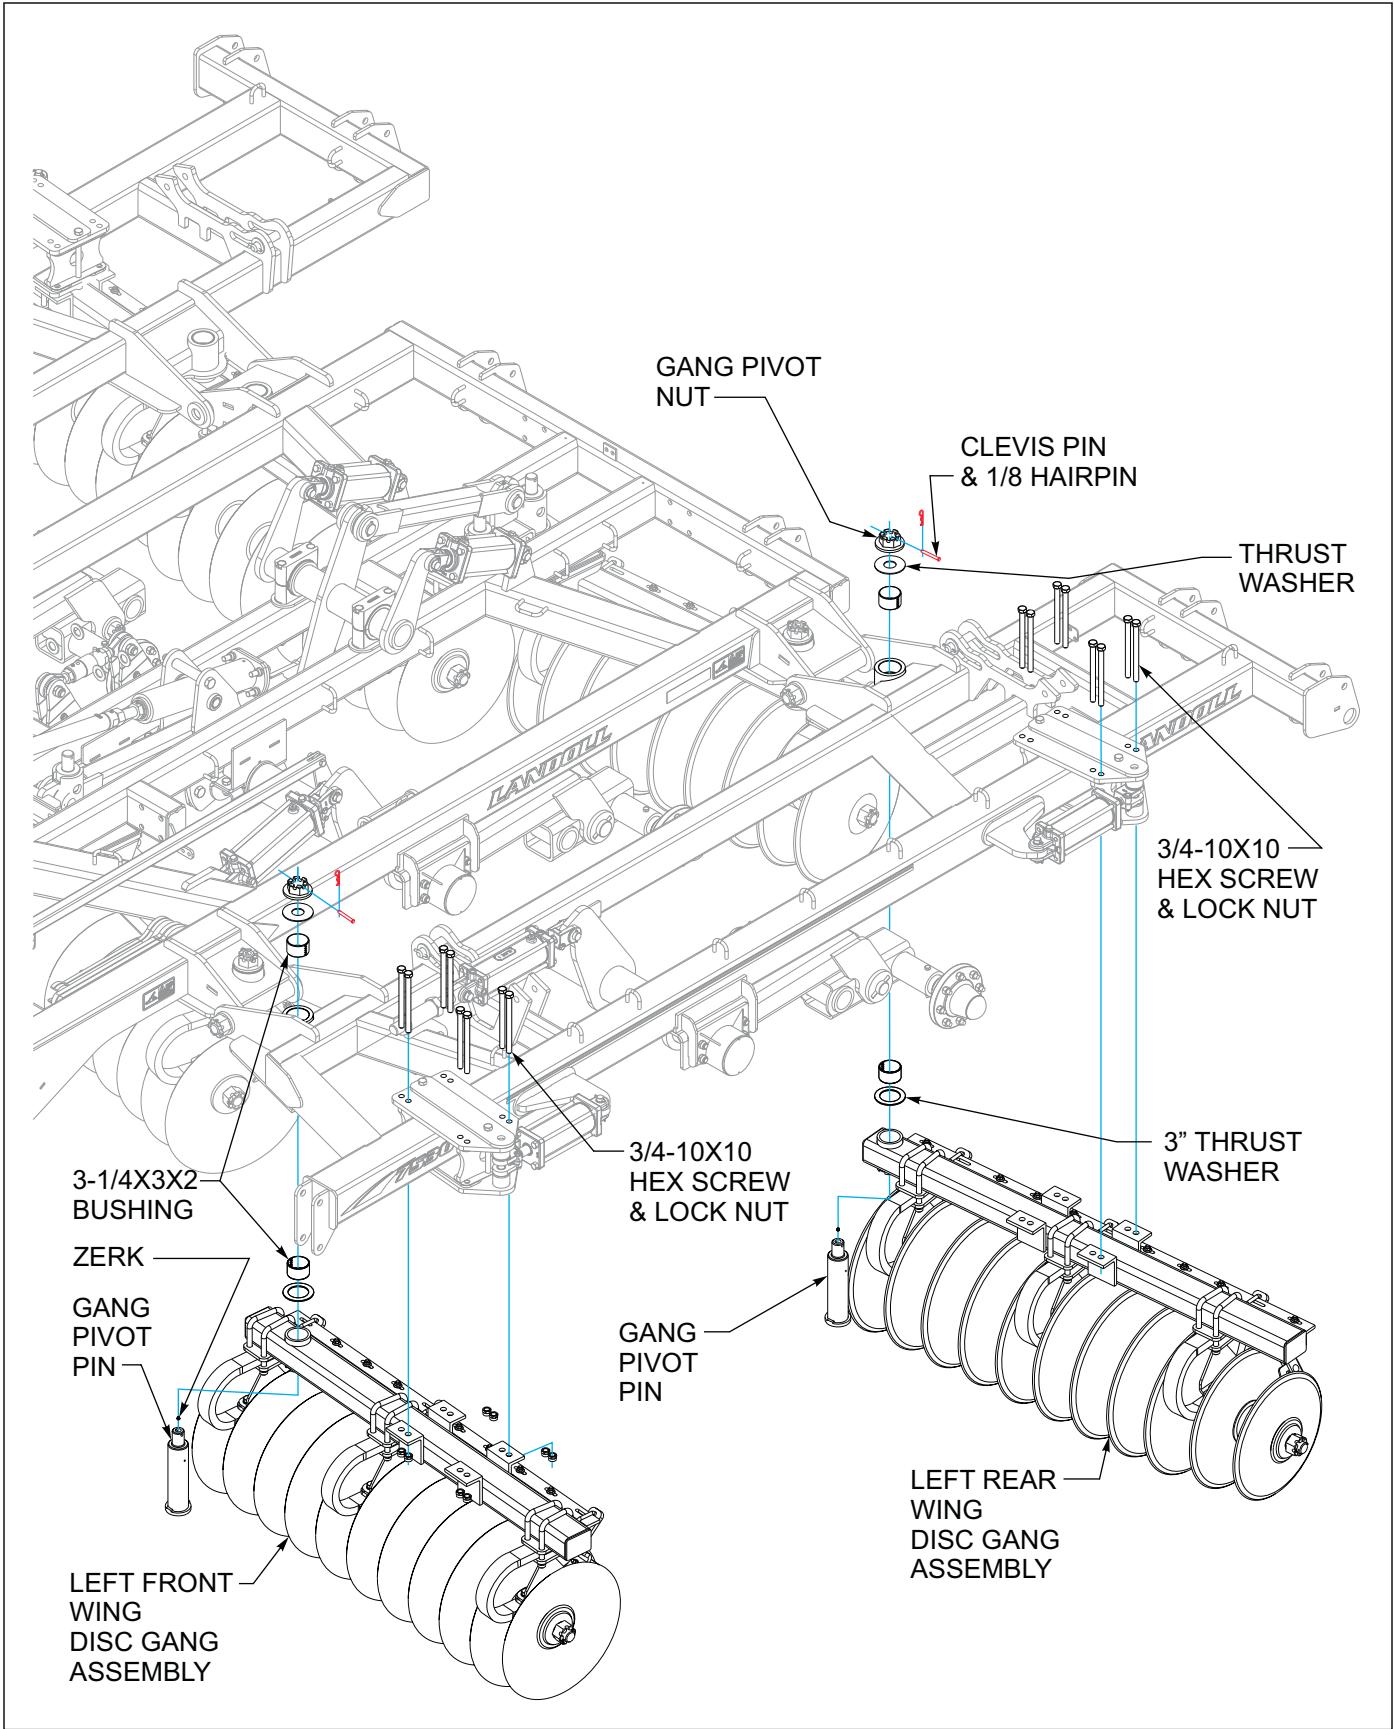
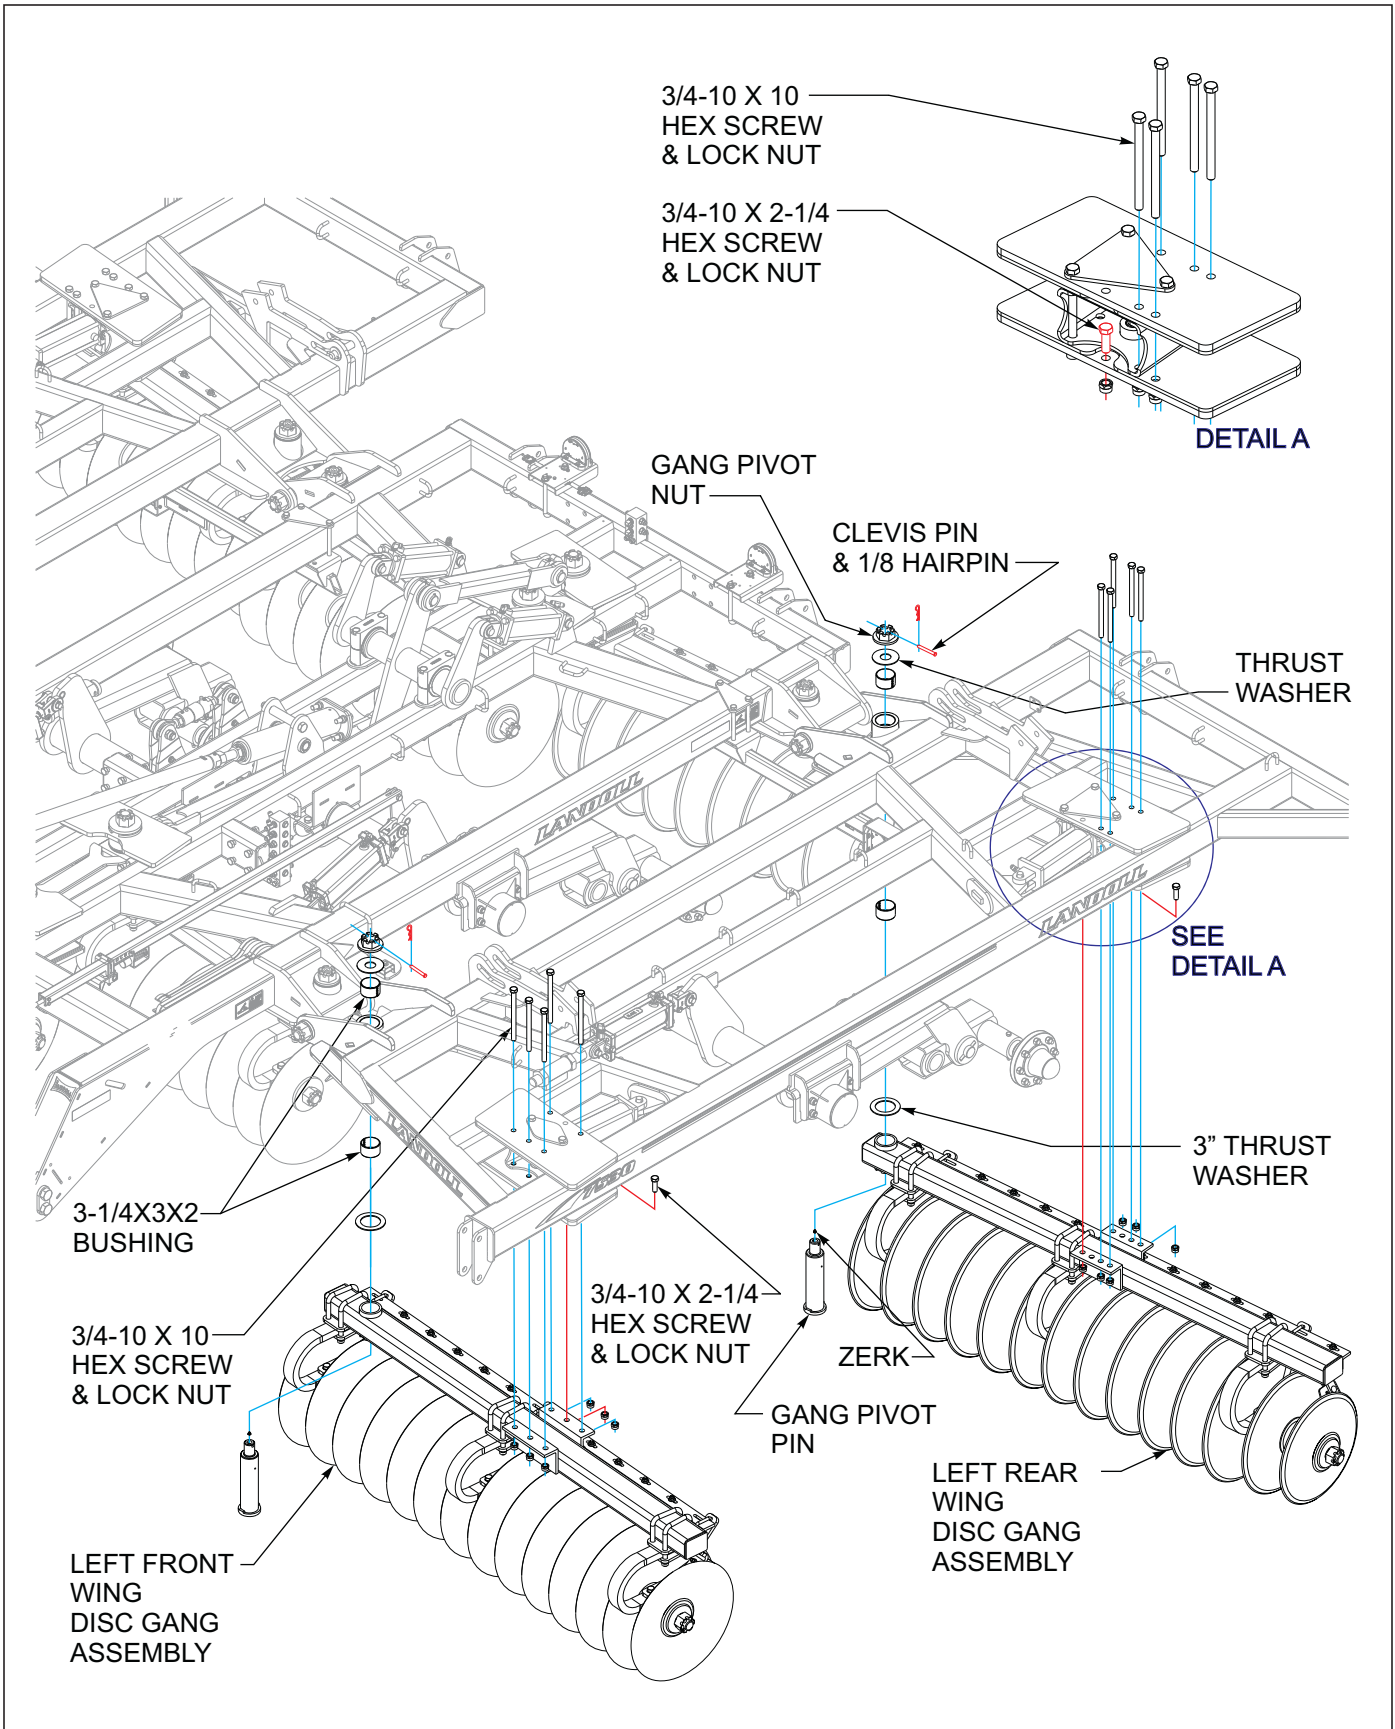
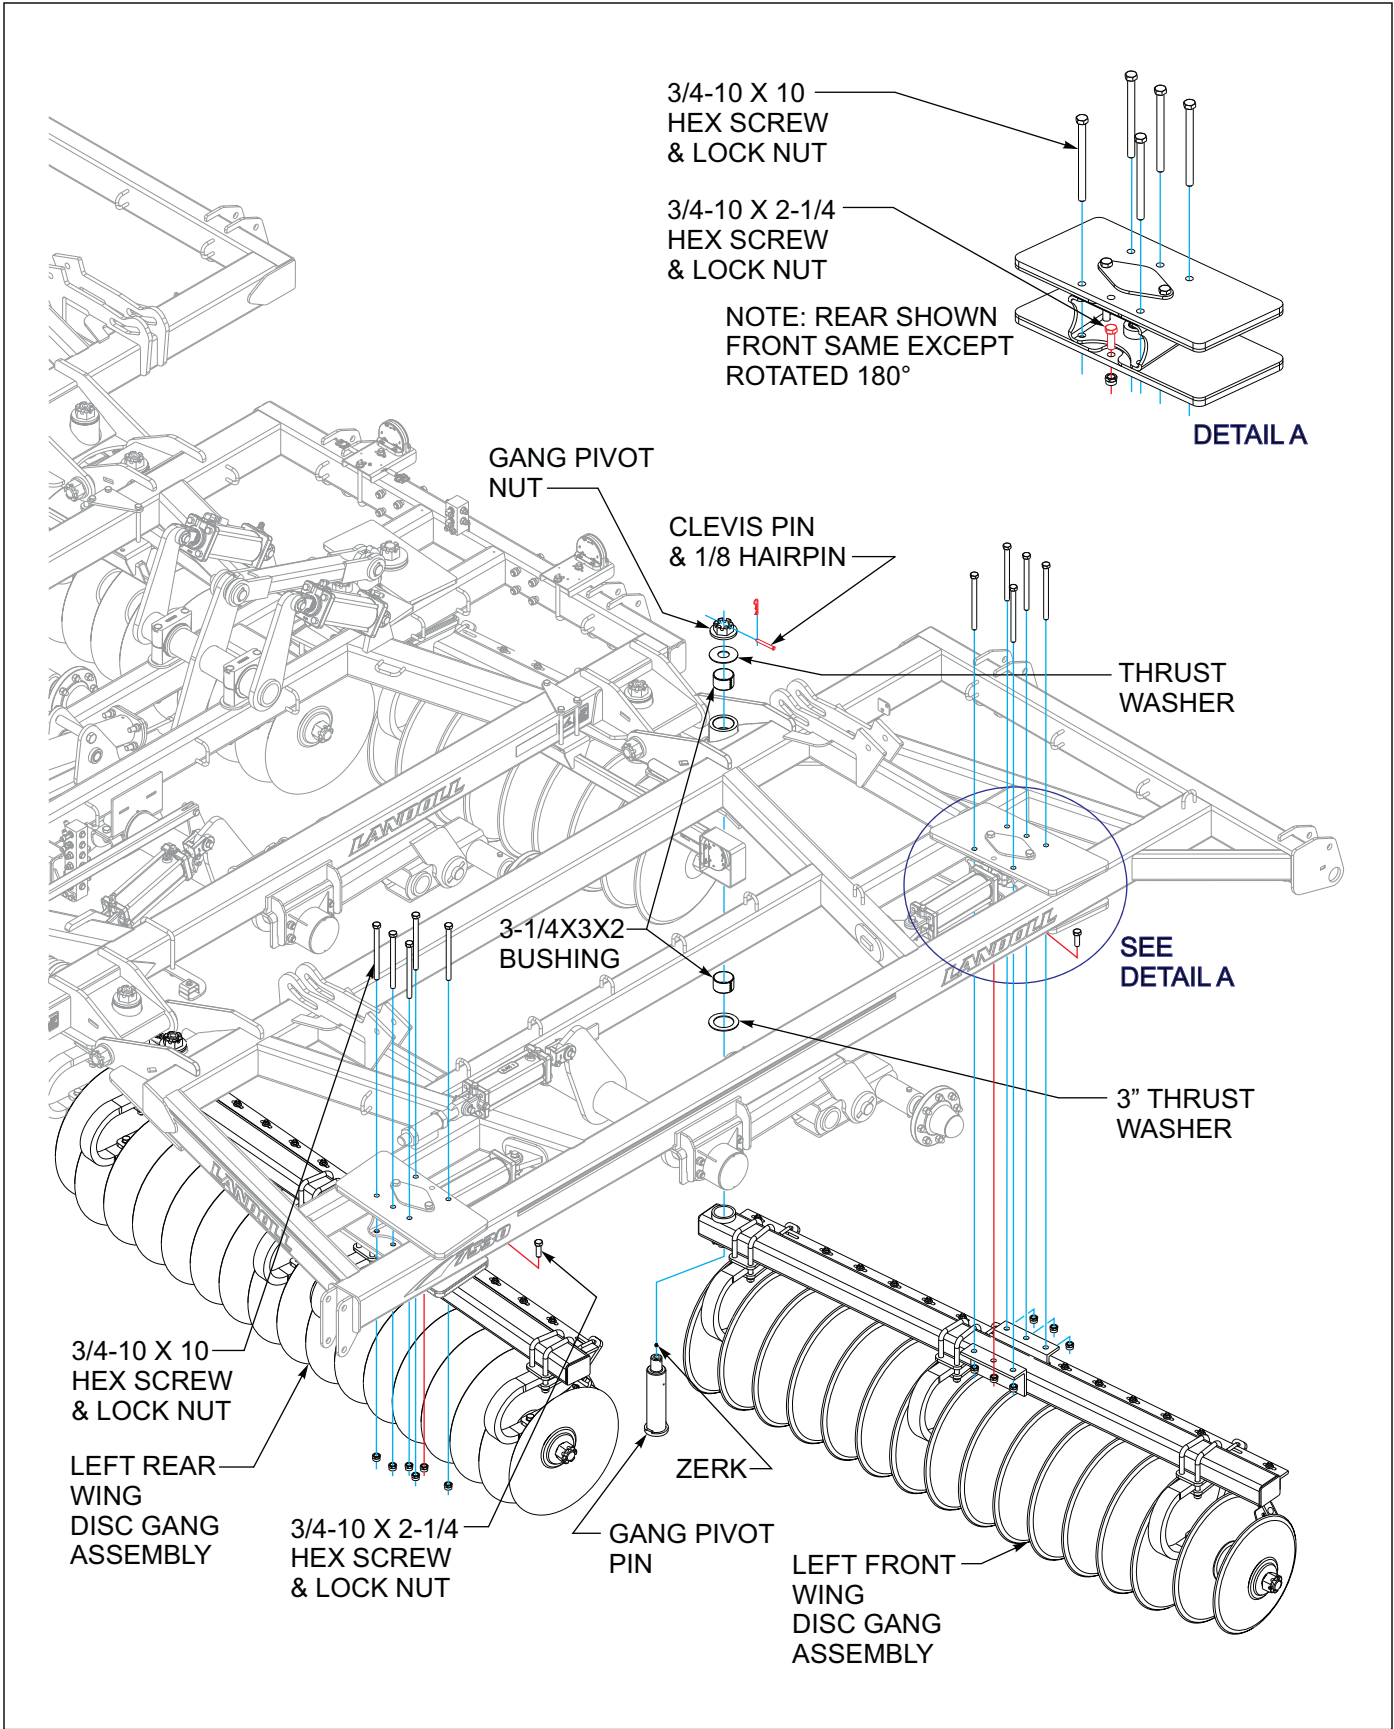

Figure 3-23: Wing Disc Gang Installation 7530-23'
Figure 3-24: Wing Disc Gang Installation 7530-26'
Figure 3-25: Wing Disc Gang Installation 7530-29'/32'/35'
1. Like the center frame gangs, install the front gangs first to keep the front end from coming up uncontrolled. Position the gang assemblies under the wing frame (See Figures 3-23, 7530-23', See Figures 3-24, 7530-26' and See Figures 3-25, 7530-29'/32'/35') and insert the gang pivot pin through gang pivot tube of gangbar, there are notches that will need to be aligned so the pin will not rotate in the gang bar. Install the 3" stainless steel thrust washer over the gang pivot pin, and pin will go on through the gang pivot mount welded to the inside of the wing frame hinges. Install the thrust stainless steel washer to the threaded end of the gang pivot pin along with the gang pivot nut. If the top bushing in the wing frame pivot comes out a little while the pin is going through, just put the gang pivot nut on and hand tighten down to press it back into place.
2. Align the slide plates on the outer part of the wing up to the gang bar and install five 3/4-10 x 10 bolts into the slide plates and through the angle iron on the gang bar. (See Figures 3-23, 7530-23', See Figures 3-24, 7530-26' and See Figures 3-25, 7530-29'/32'/35') for placement of the bolts. Once the gangs are secure from the 10" bolts, install one 3/4-10 x 2-1/4 bolt, see Detail A, under the clevis of each outer wing gang slide cylinder. This will go through the bottom plates and the angle iron on the gang bar.